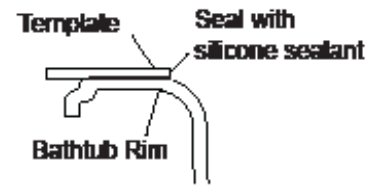

Fig. 9
6. Apply a continuous bed of silicone sealant around the entire seam between the counter and the bathtub rim. Allow sealant to cure according to manufacturer's instructions, Figure 9.